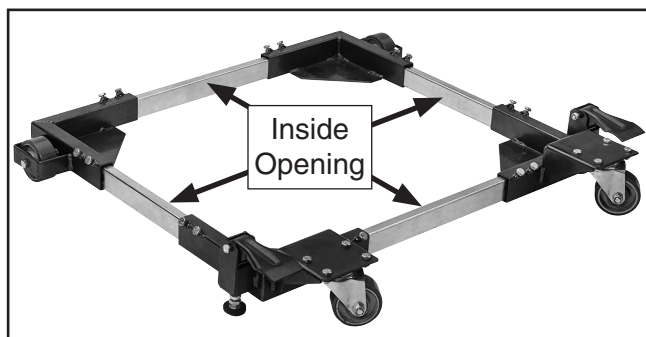

Figure 9. Properly assembled mobile base with inside opening slightly larger than machine base to ensure easy fit.
7. Slide corner brackets over ends of side rails (see **Figure 9**). Position corner brackets so inside opening is $\frac{1}{4}$ "– $\frac{1}{2}$ " larger than both width and length of machine base footprint.